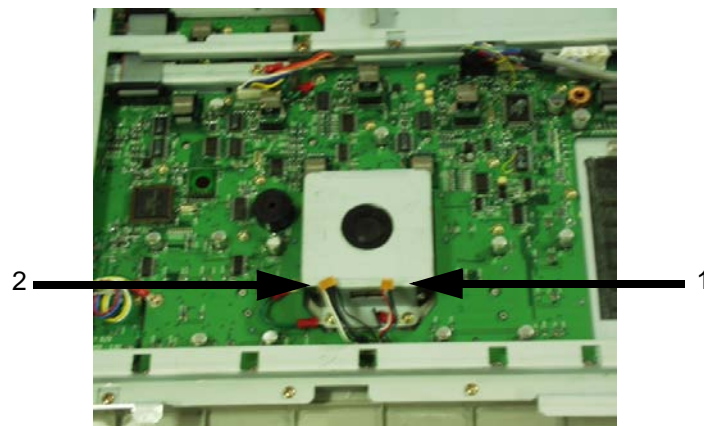

Figure 8-34 Disconnect two connectors
- 1.) Disconnect two connectors (1-2) from the Trackball Assy. Refer to Figure 8-34.